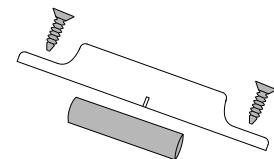

Figure 4: Commercial Installation
3. Use the provided #4 screws to mount the cover. See Figure 4.